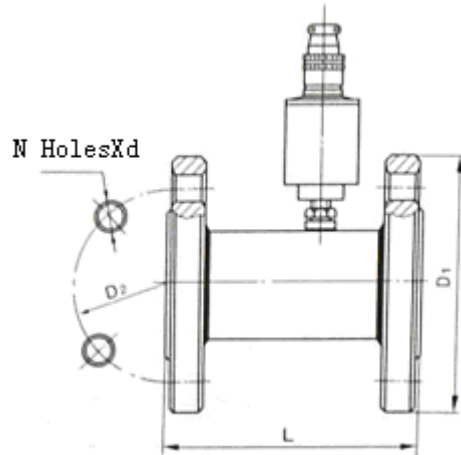

Fig.6 Dimensions for LWGY-32~250
3) Dimensions for LWGY-32~250, PN1.6, PN2.5: shown on Fig.6 and Table 4